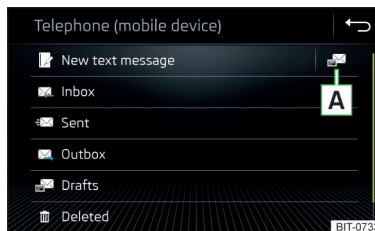

Fig. 185
- In the *Telephone* main menu, tap on the function surface  and the main menu for text messages will be displayed » Fig. 185.
- ▶ In the main menu of the text messages, tap on function surface » **Fig. 185 on page 164**.